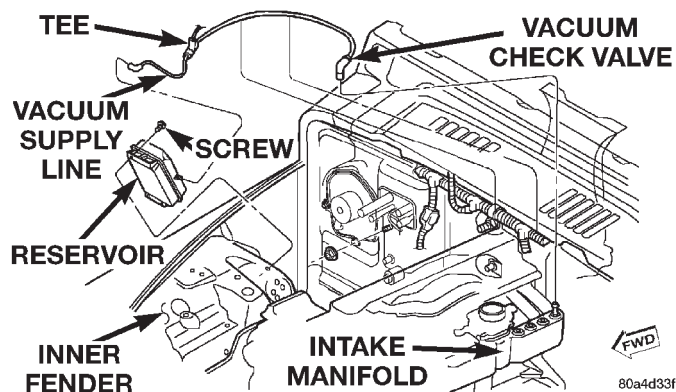

Fig. 34 Vacuum Reservoir Remove/Install
(1) Remove the battery and battery tray from the engine compartment. Refer to Group 8A - Battery for the procedures.
(2) Unplug the vacuum supply line connector from the vacuum reservoir (Fig. 34).